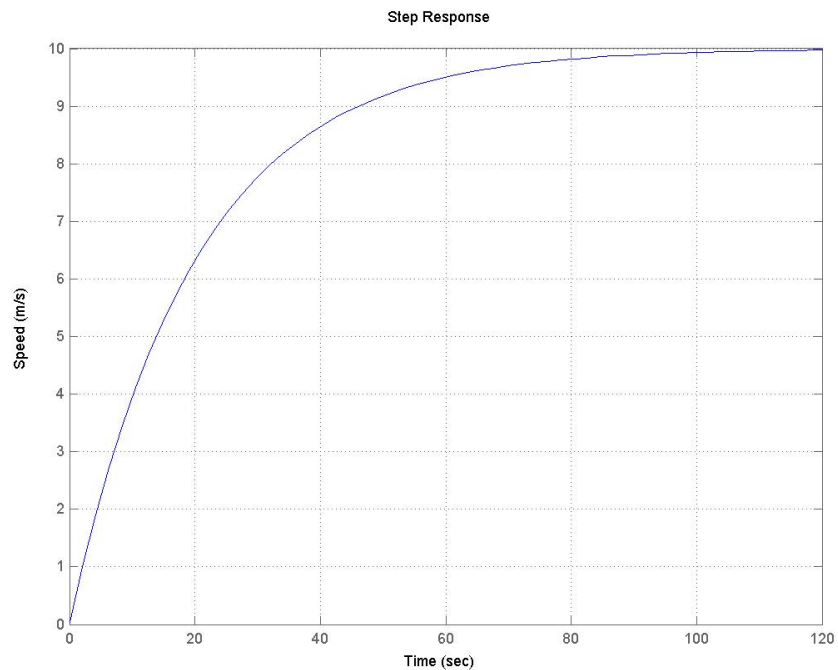

Figure 2: Step response for 500 N input. Notice the steady-state (final) value of 10 m/s and the time-constant of 20 seconds.
In this example we will use MATLAB to analyze one example of a first order model - the response of a car with cruise control (figure 2).
1. Write the equations of motion for the speed and forward motion of the car shown in figure 2. Assume that the engine imparts a force $u(t)$ as shown. Drag is modelled as a linear function of velocity. Take the Laplace transform of the resulting differential equation and find the transfer function between the input u and the output v .
This can be illustrated with figure 2. You can alternatively do this two other ways. First, you can see that the steady-state value is $v_{ss} = f/b = 500/50$ m/s by considering the differential equation and setting $\dot{v} = 0$. A second method is to use the final value theorem in the Laplace domain. From the transfer function we can see that $V(s) = \frac{F}{s} \frac{1/m}{s + b/m}$. To find the final value we multiply by s and take the limit as $s \rightarrow \infty$. This also yields $v_{ss} = f/b$